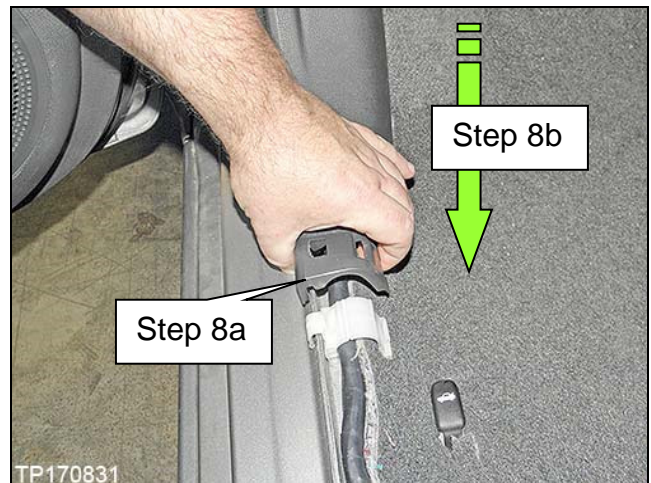

Figure 9
- 1) Slide fingers between the dash side finisher and carpet where shown in Figure 9.